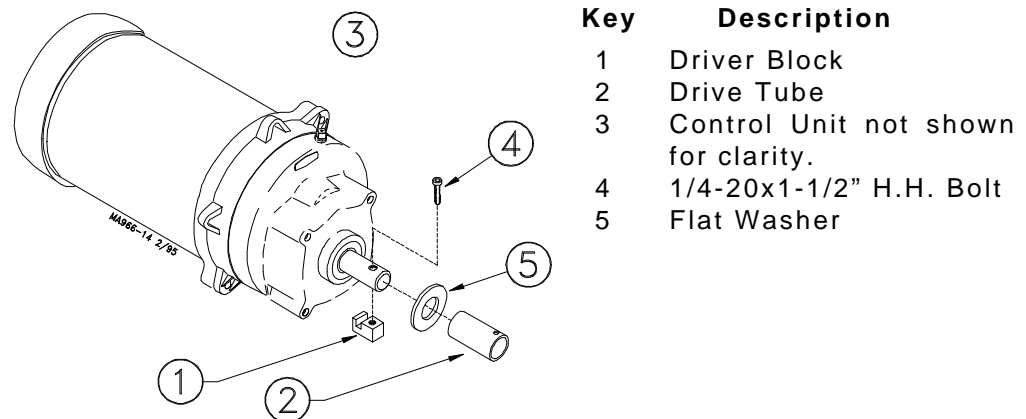

Figure 60. Auger Driver Components.
4. Slide the Drive Tube and flat washer over the output shaft on the Power Unit, as shown in Figure 60.
5. Attach the auger to the output shaft of the Power Unit, as shown in Figure 60. Use the Drive Block to secure the auger to the Output Shaft.